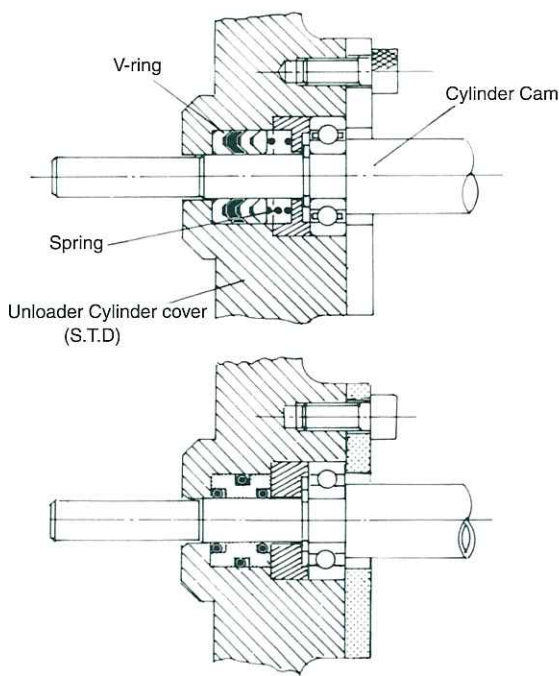

Fig. 134A Unloader Indicator Cylinder Cam Portion (Helium Compressor)
b) The standard seal is a Teflon V-ring (82). Apply oil to the V-ring and fit in the unloader cover, positioning the top of the "V" of the ring facing the unloader cover (74) and the bottom of the "V" facing outward (ref. Fig. 134A).